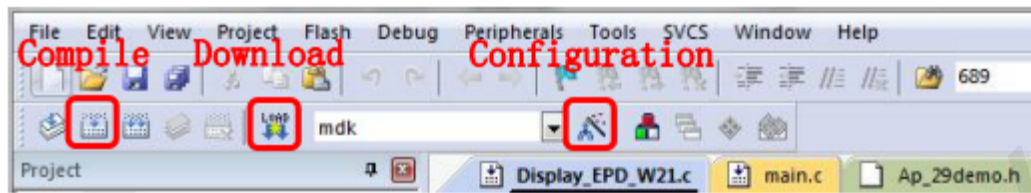
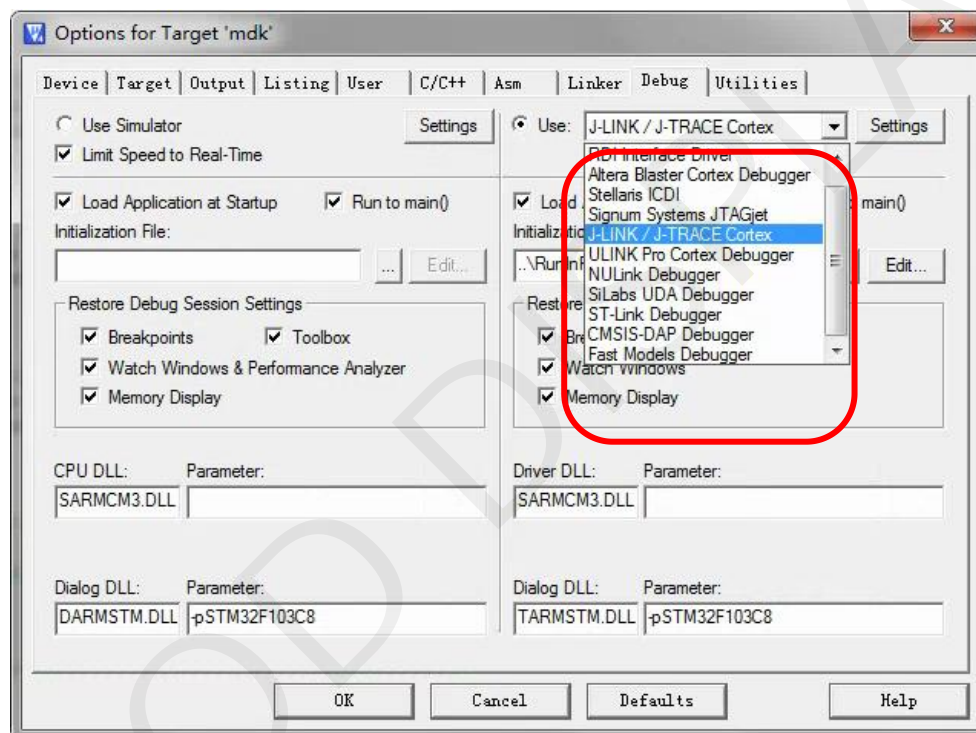
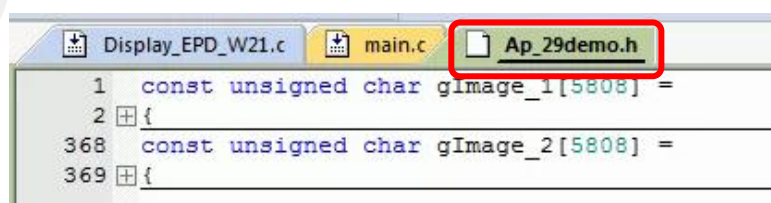

Figure 13 :Keil4 tool bar
Figure 14: Choose the simulator model
Figure 15 :change the image data
3) The Keil4 toolbar is shown in Figure 13. Please click  at the first time using the simulator and a box like Figure 14 will pop up. Choose the simulator model of yours in the "Debug" bar, and click "OK" to confirm.
4)Click Ap\_29demo.h in Figure 15 to change the image data that needs to be displayed(the image data needs to be achieved by image2lcd ).
5)Click  in the toolbar in Figure 13 to compile.
6)Click  in the toolbar in Figure 13 to download.
- 9) If you want to change a image, you need to use Keil4 to change the image data (Figure 15), compile it (Figure 13) to generate a new mdk.hex file, and then re-select the file to download it.